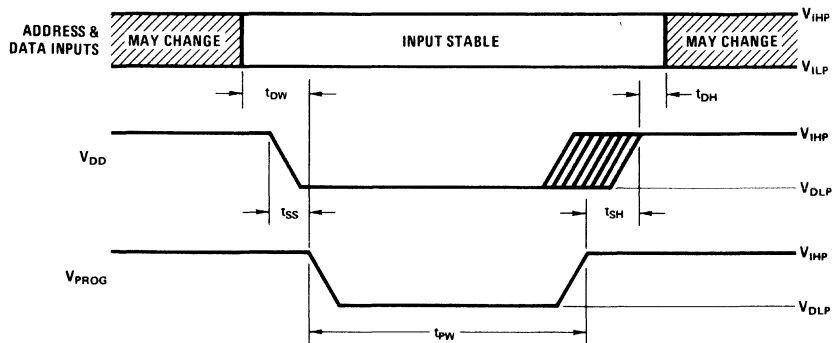

Figure 4
**programming characteristics** (see Figure 4)